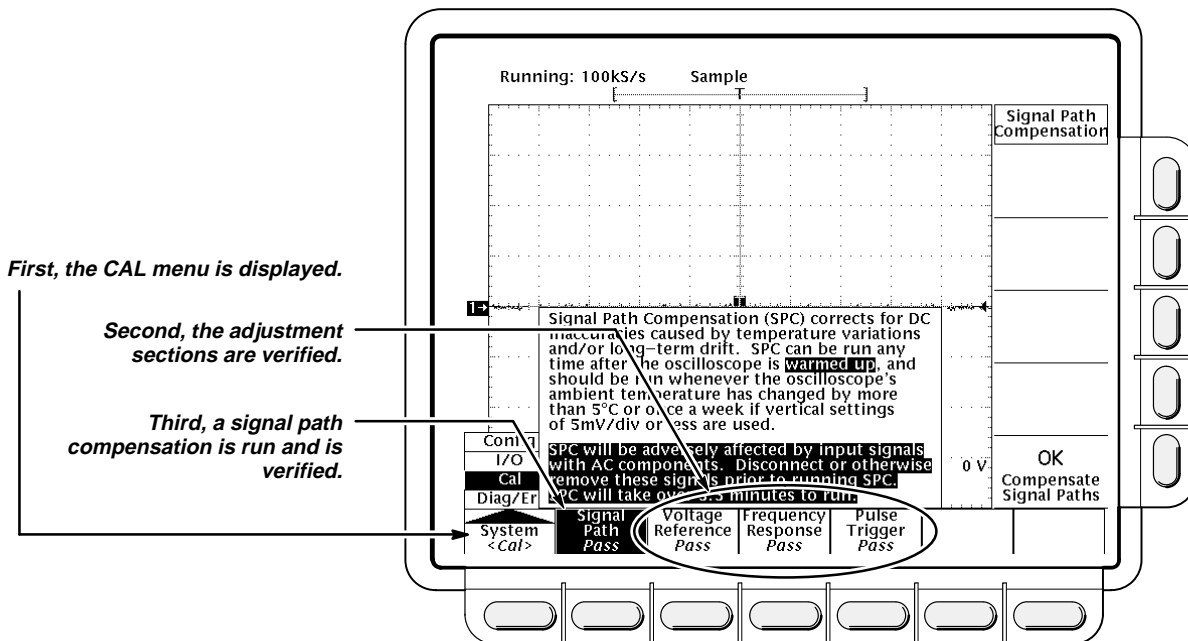

Figure 1-2: Verifying Adjustments and Signal Path Compensation
- Verify that the word **Pass** appears in the main menu under the following menu labels: **Voltage Reference**, **Frequency Response**, and **Pulse Trigger**. (See Figure 1-2.)
- h. *Confirm signal-path compensation returns passed status:* Verify that the word **Pass** appears under **Signal Path** in the main menu. (See Figure 1-2.)